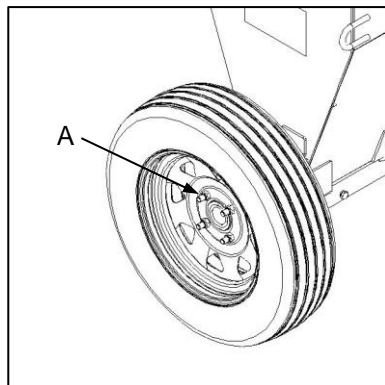
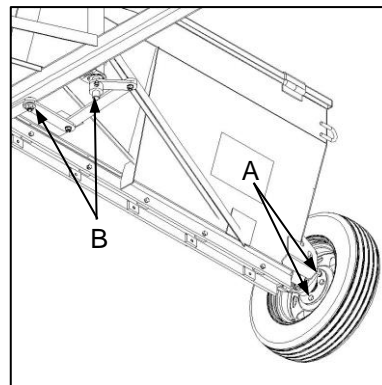

Fig. 1
Fig. 2
- ✔ Check all fasteners for tightness, including wheel nuts (Fig. 1-A), wheel bearing mountings (Fig. 2-A) and linkage bolts (Fig. 2-B).
- ✔ Verseker dat alle hegstukke vas is, insluitend wielmoere (Fig. 1-A), wielkoeëllaermonterings (Fig. 2-A) en skakelboute (Fig. 2-B).